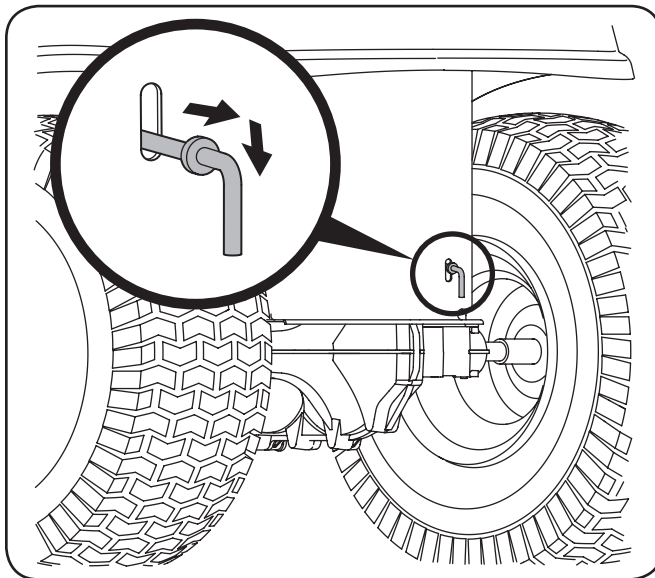

Figure 3-1
1. Locate the hydrostatic bypass rod in the rear of the tractor. See Fig. 3-1.